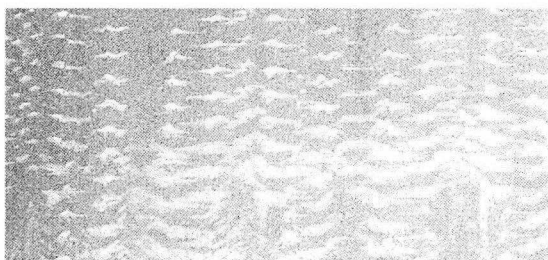
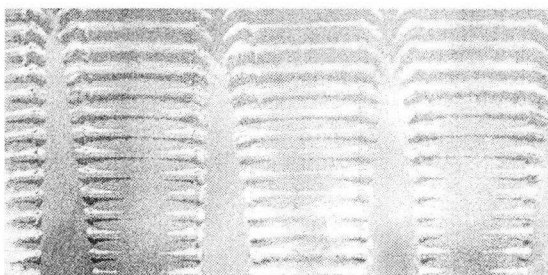

Figure 6-5: Expansion with proper rotation
Figure 6-6: Expansion without proper rotation
**Important!** Rotating the tool between expansions will provide smooth, even expansion of the tubing. Failure to rotate the tool will cause deep grooves in the tubing which can result in potential leak paths. See **Figure 6-5** and **Figure 6-6** on **page 28**.
**Important!** You should feel some resistance as the fitting goes into the tubing. If you do not feel any resistance, the tubing may be over expanded and will require additional time to shrink over the fitting. See **Figure 6-5** and **Figure 6-6** on **page 28**.